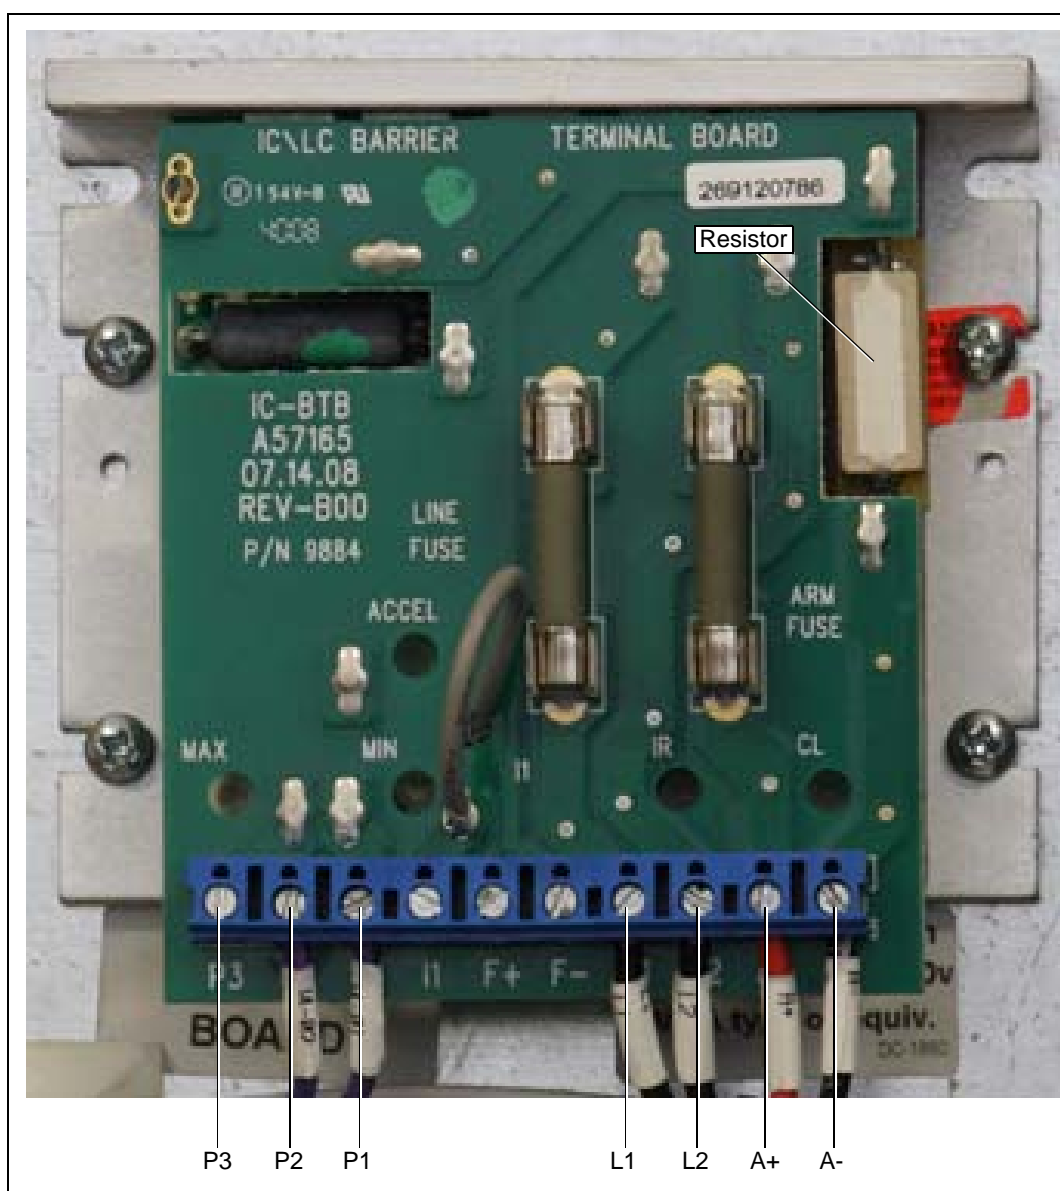

Figure 3C SCR Board Terminals
Terminals L1 and L2 are the input terminals. When the unload system is turned ON, there should be 220 VAC across these terminals. (See Figure 3C.)
**IMPORTANT:** If installing a new SCR Board, be sure to remove the resistor (shown in Figure 3C below) from the old board and install it in the new board. To do this, pull the resistor out from the 2 pin socket of the old board and install in the same socket on the new board. Pictured below are horsepower resistors. The original components that came with the dryer should remain.
- Use a voltmeter to read DC voltage. Place the red lead on the A+ terminal of the SCR Board and the black lead on the A- terminal. (See Figure 3C on Page 9 for the location of these terminals and Figure 3A on Page 7 for the location of the SCR Board. Touch the Minimum Speed “Up” and “Down” buttons and watch the display on the voltmeter. The voltage reading on the voltmeter should be as close to 9 VDC as possible. Once the voltmeter displays this, touch the “ACCEPT” button. (See Figure 3J.)